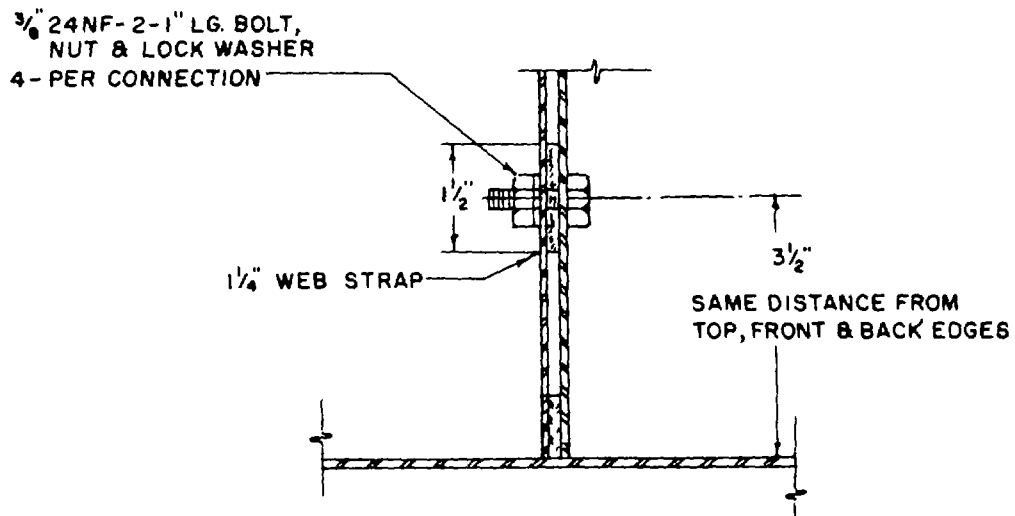

Figure 52. Mounting adjacent cabinets.
- (14) *Cabinets, storage.* Storage cabinets are floor mounted and bolted together when adjacent. Typical mounting details are shown in figures 52 and 53.